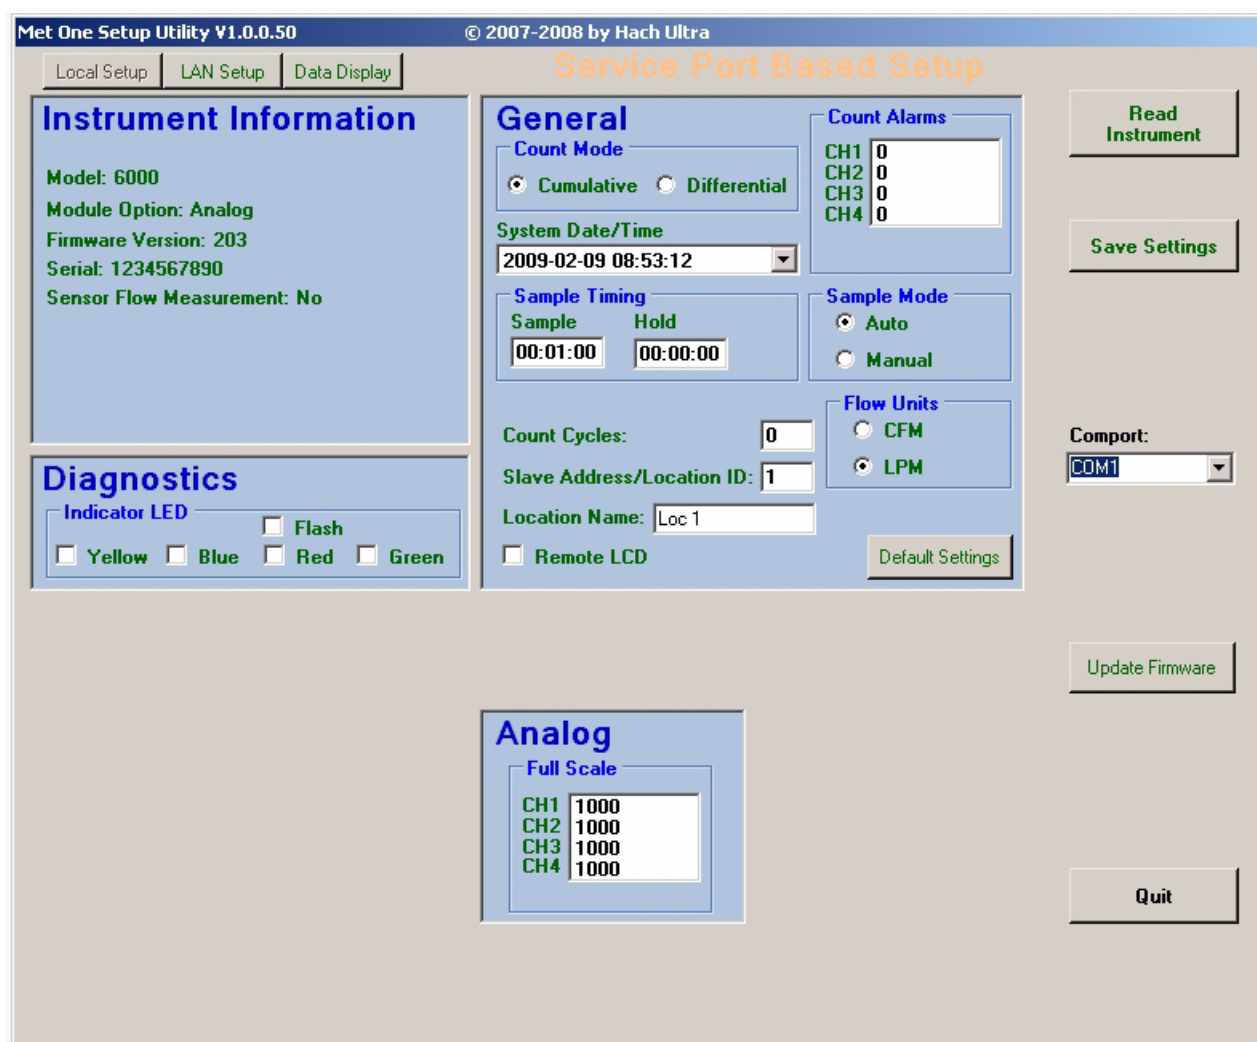

Figure 18 Setup Utility, Local Setup tab—analog unit
1. Go to the **Local Setup** tab of the Setup Utility and click **READ INSTRUMENT** (Figure 18).
4. On the **Local Setup** tab in the Setup Utility, set the Sample Mode to **Manual** (Figure 18).